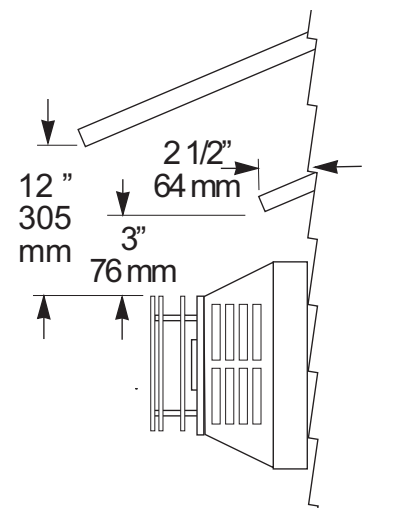

Figure 20. Termination Clearance to overhangs
- The horizontal termination cap must maintain a 3" clearance to any overhead combustible projections 2 1/2" or less. It must also maintain 12" clearance from projections exceeding 2 1/2". See fig. 20.